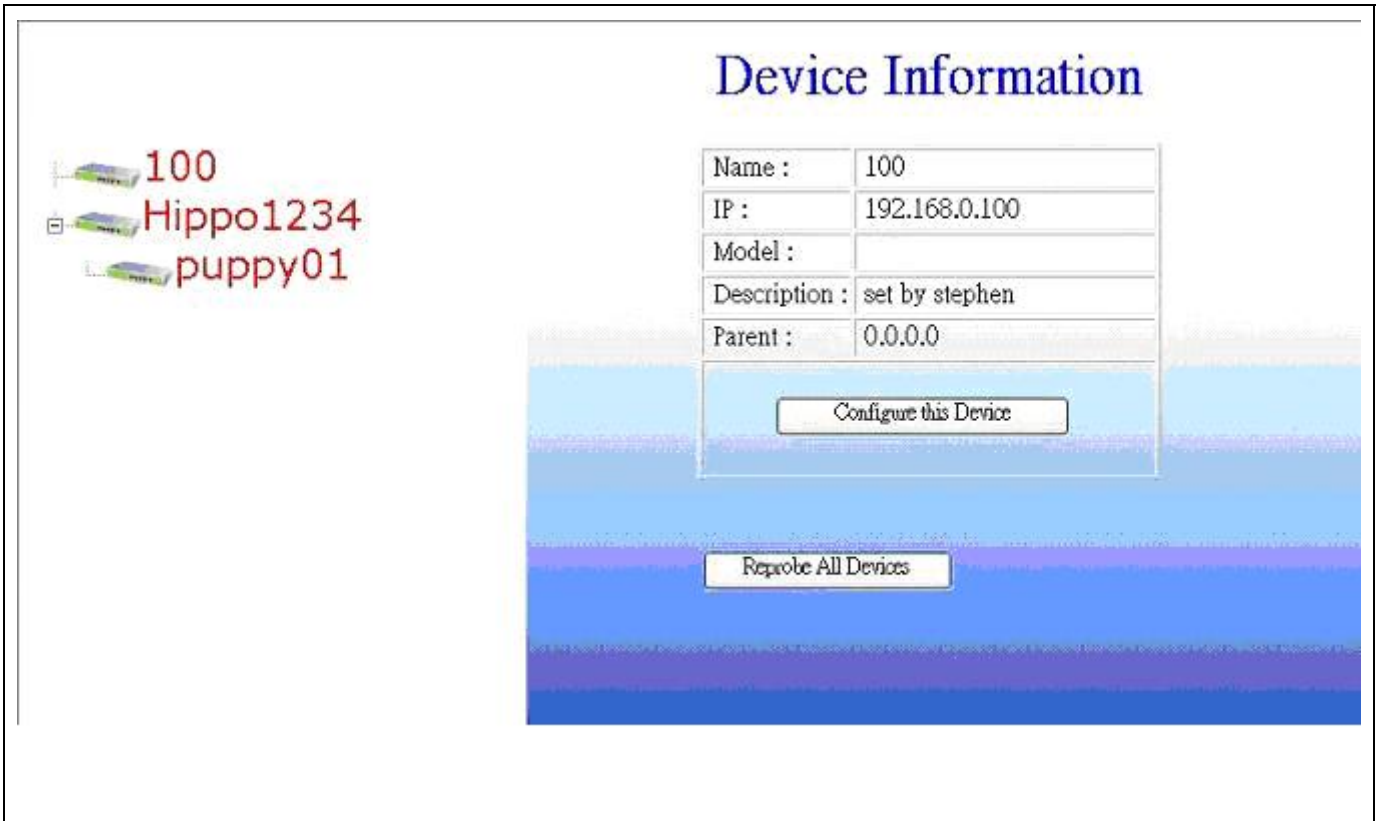

Fig 4-8
- G. Select the switch to be configured from the left side and the device information will be shown on the right. (Fig 4-8).